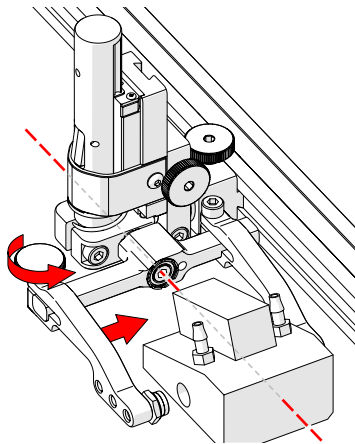

Fig. 36 - Adjust outer arm
5. Loosen the probe holder arm adjustment knob (Fig. 36) and slide the probe holder arm along the yoke pinching the wedge in place.